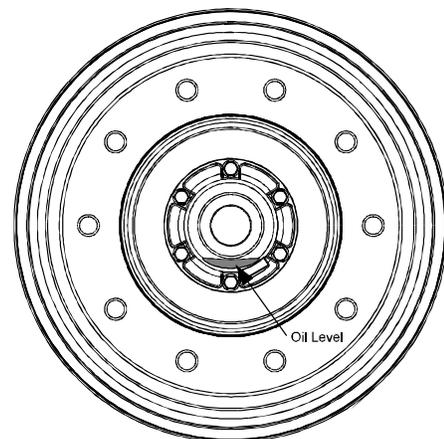

Figure 19 – Wheel Bearing Oil Level
23. Check oil level through the hubcap window at ride height. **(Figure 19)**. If level is below the "add" level line, then fill with recommended oil until "full" level is achieved. Add oil slowly since the heavy weight oil will settle slowly in the hub.